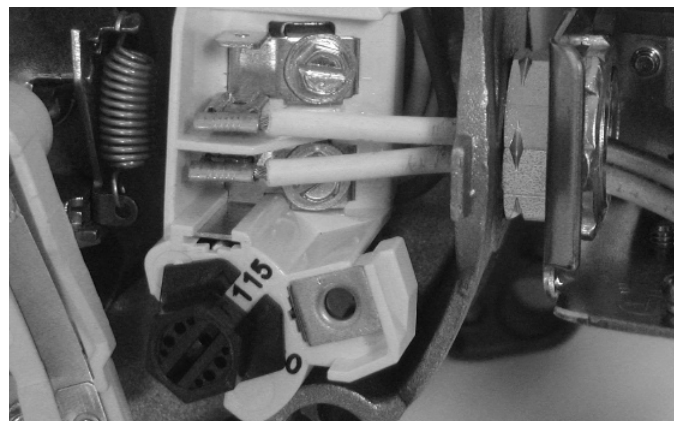

Figure 11: Voltage set to 115 volts, Dial Type
2. Turn the dial counter-clockwise until 115 shows in the dial window as shown in Figure 11.